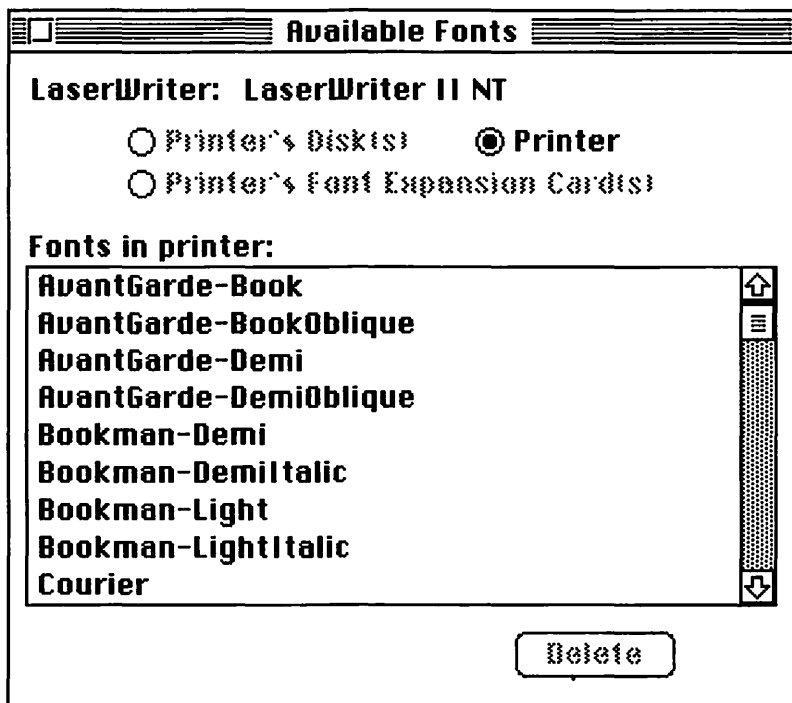

Figure 24 Available Fonts window.
1. Select the Display Available Fonts... command from the File menu. The Available Fonts window, similar to the example shown in Figure 24, will be displayed.